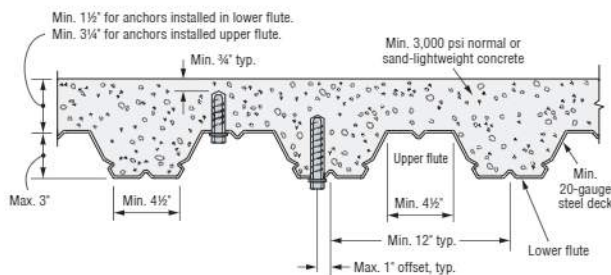

Figure 1. Installation of 3/8"- and 1/2"-Diameter Anchors in the Soffit of Concrete over Metal Deck
- For anchors installed in the soffit of sand-lightweight or normal-weight concrete over metal deck floor and roof assemblies, as shown in Figure 1 and Figure 2, calculation of the concrete breakout strength may be omitted.
- In accordance with ACI 318-14 Section 17.5.1.2(C) or ACI 318-11 Section D.6.1.2(c), the shear strength for anchors installed in the soffit of sand-lightweight or normal-weight concrete over metal deck floor and roof assemblies $V_{sa,deck}$ and $V_{sa,deck,eq}$ shall be substituted for V_{sa} .